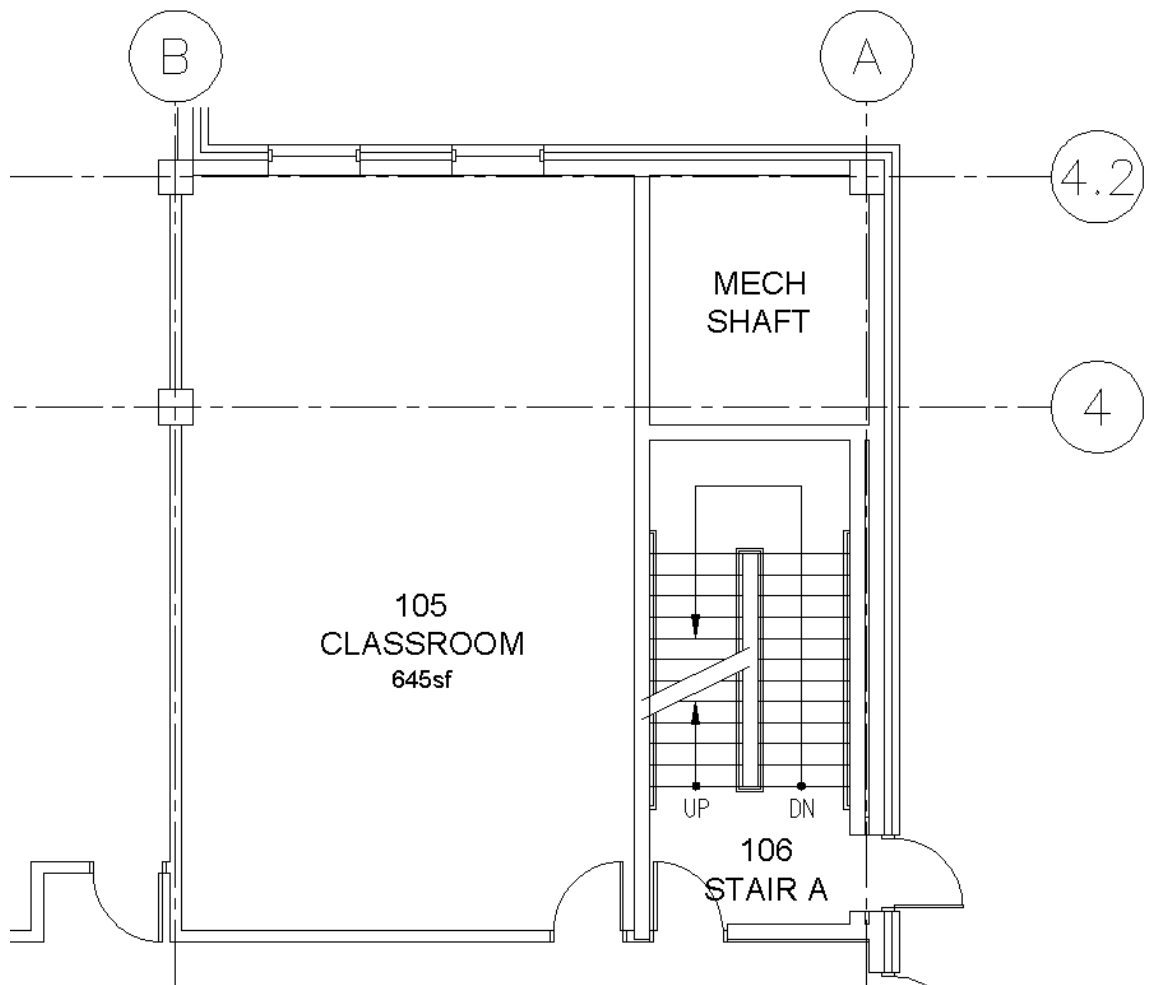
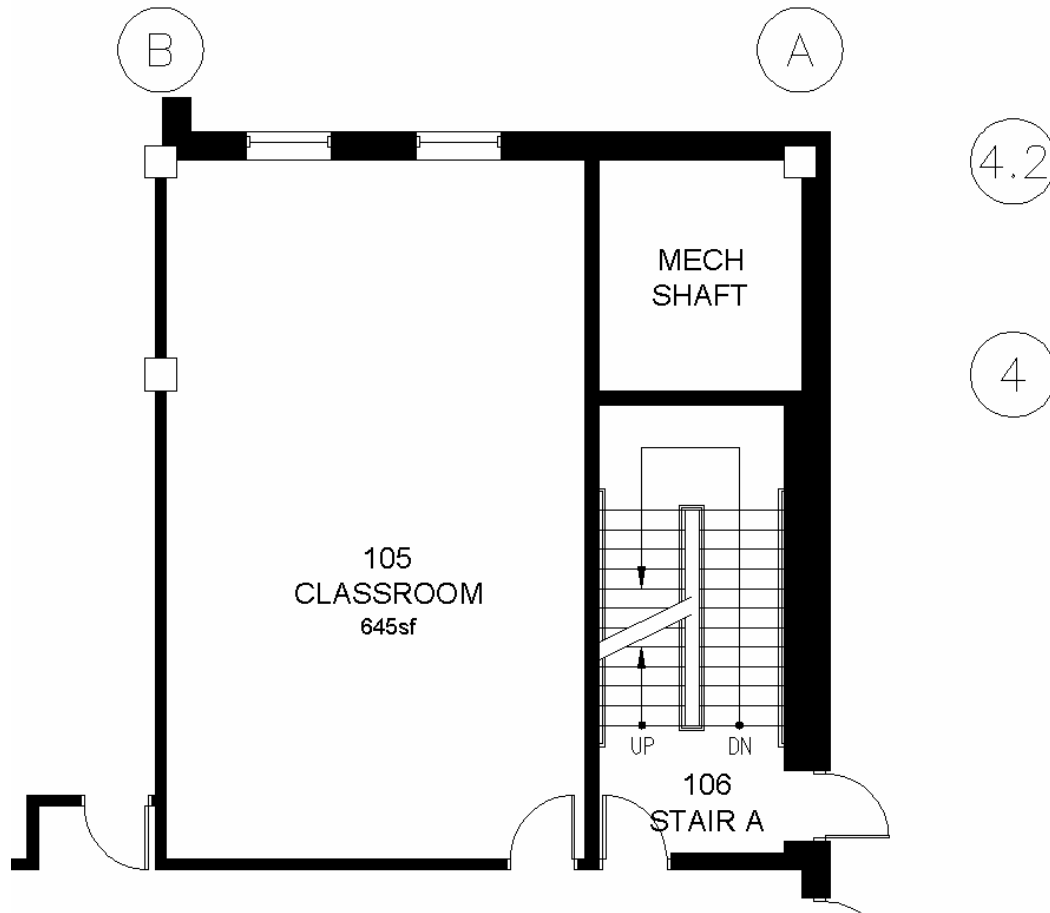

Figure 3-5.1 Plan view near east stair shaft
Figure 3-5.4 Plan view near east stair shaft with walls hatched
Looking at Figure 3-5.1 you can see it would take three picks just to *Hatch* the area between the two windows. Also, the grid lines bisect several walls which would require several extra picks as well. This is one of the main reasons for dividing things up onto separate *Layers*, so you can turn them off when they are not needed.
1. Using the **Layer Off** tool from the *Format* → *Layer tools* menu, turn off the grid lines and the wall cavity lines (see Figure 3-5.1).
As you can see in Figure 3-5.4 the walls and window punch out very well compared to Figure 3-5.1. This is also true for items like casework and furniture; they read better!